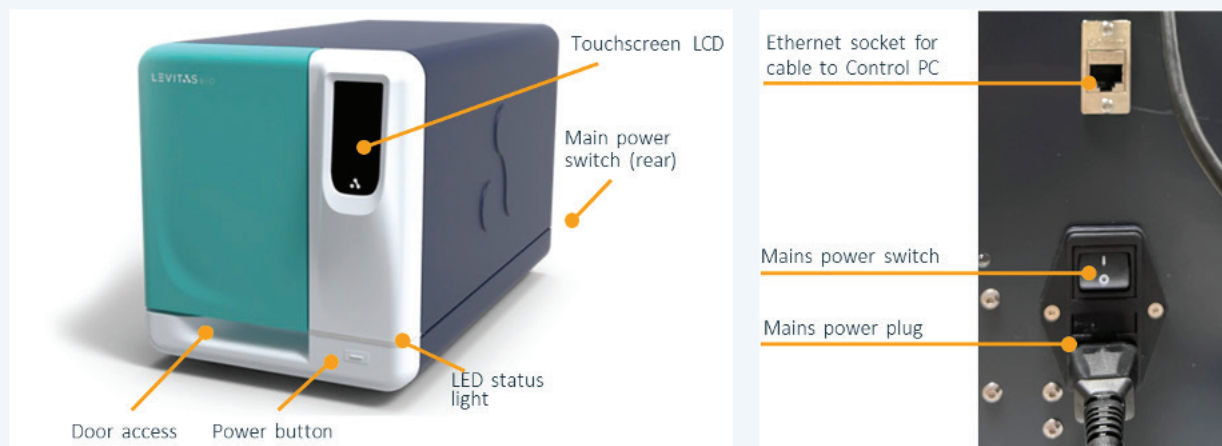

Figure 20. LeviCell EOS instrument connection guide.
15. Connect the Control PC to the EOS instrument using the EOS Ethernet Cable (Figure 20). **Note:** Only use ports from the group of 4 indicated for “EOS Instruments’ connection cable” in the Figure above.